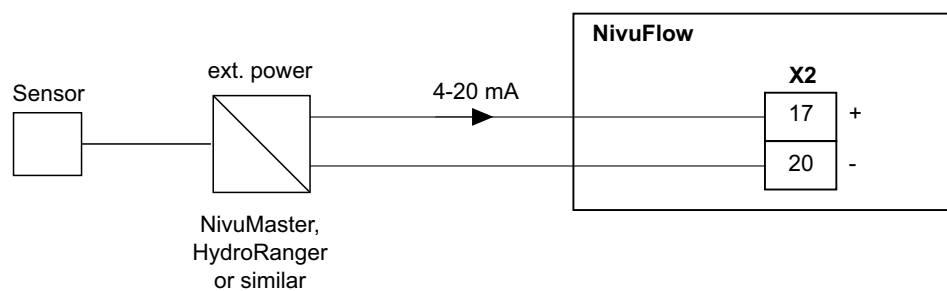

Fig. 17-6 Connecting an external transmitter
- ➡ If the mA signal of the level measurement is provided from an external transmitter (e. g. NivuMaster), the transmitter must be connected according to Fig. 17-6.